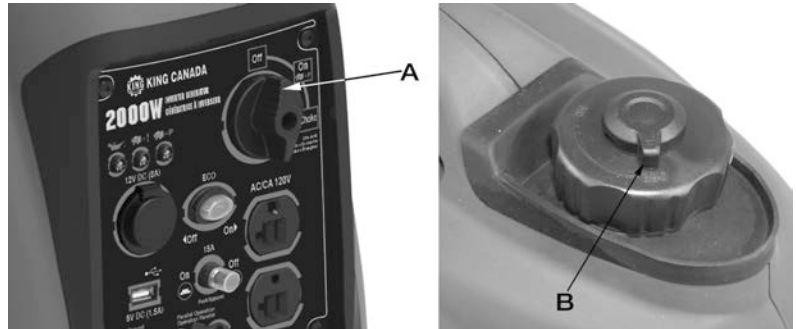

Figure 6
- 1) Turn the dial (A) Fig.6 to the "Off" position.
- 2) Turn the fuel cap lever (B) to the "Off" position.